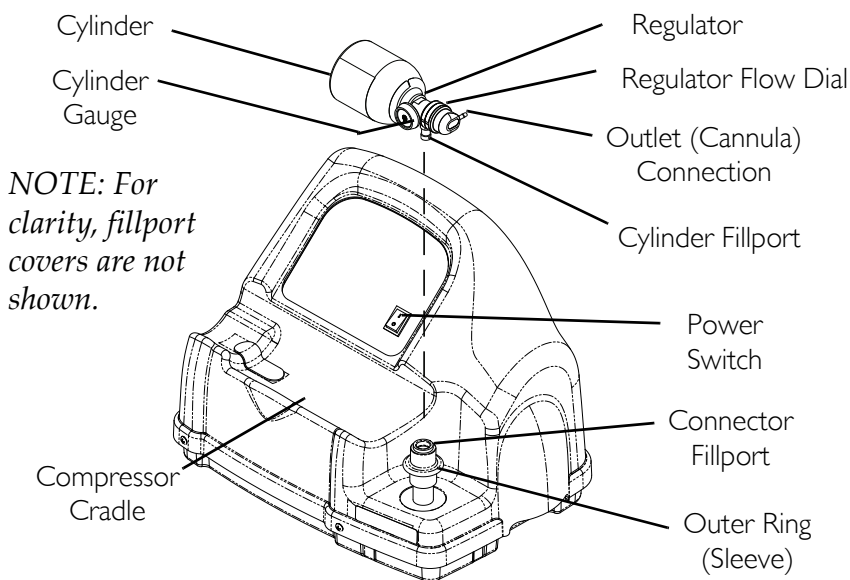

FIGURE 4.2 Connecting the Cylinder to the Compressor
NOTE: For this procedure, refer to FIGURE 4.1 on page 23 and FIGURE 4.2 on page 24.
1. Examine the cylinder gauge. If the cylinder pressure is **less** than 1500 psig (10342 kPa), proceed to STEP 2 (FIGURE 4.2).
2. Set the regulator flow dial on the cylinder to Off (FIGURE 4.2).
- Grasp the cylinder/regulator assembly in the area behind the cylinder gauge (FIGURE 4.2).
- Position the cylinder in the compressor cradle (FIGURE 4.2).
- Align the cylinder fillport with the connector fillport (FIGURE 4.2).
- Pull UP on the outer ring (sleeve) of the connector fillport while pushing DOWN on the cylinder/regulator assembly to couple the cylinder fillport into the connector fillport (FIGURE 4.2).